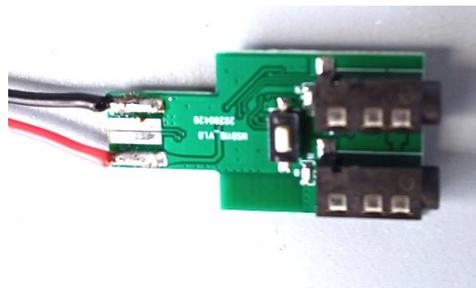

Fig. 10: Showing the correct connection of the wires.
Step 4:c Solder the Output wires from the 5V Regulator Module onto the USB Bluetooth Dongle. (Refer to Figure 10 and 11.)